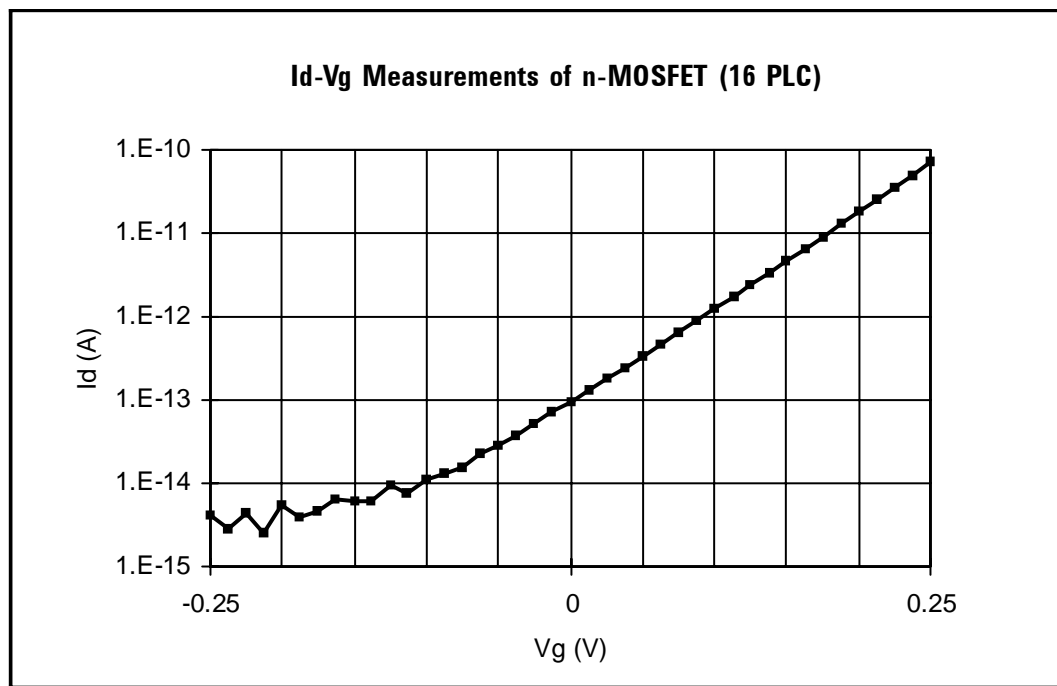

Figure 1. I_d - V_g Measurements with the 4073A
Figure 1 shows an example of the I_d - V_g measurement of an N-channel MOSFET on a wafer. The HRSMU is connected to the drain terminal of the MOSFET and another SMU is connected to the gate terminal. Source and substrate terminals are connected to the GNDU. Drain
The HRSMU enables the low-current measurements as shown in Figure 1 on page 3. Note that the high-resolution pin board and ultra low leakage probe card, which are discussed in the following sections, contribute to this low-current measurement capability.
The 4073A uses high-resolution (HR) pin boards, which consist of new relays configured to minimize drift of thermo-electromotive force for the matrix switches. This allows the 4073A to achieve better low-current and low-voltage measurements than the 4072A. The low-current measurement capability is shown in Figure 1 on page 3.